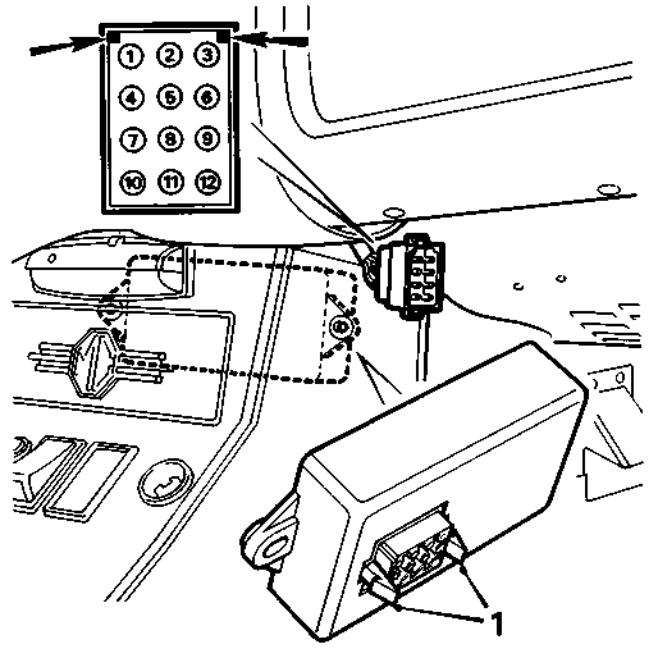

Fig. Na.8
- (1) Batteries in good condition.
- (2) 500 milliamp. line fuse and the 35-amp. fuse connecting fusebox terminals 5 and 6 in good condition.
- (3) Gear lever in neutral position.
- (4) Hand brake applied.
- (5) Compress the two retaining tags (see Fig. Na.8) on the front of the seat belt system control unit and disconnect the wiring harness plug from the control unit.
Referring to Figs. Na.8 and Na.9 for circuit diagram and wiring harness plug pin identification numbers, carry out the following test procedure, using a 12-volt 2.2-watt test lamp and a length of insulated cable.